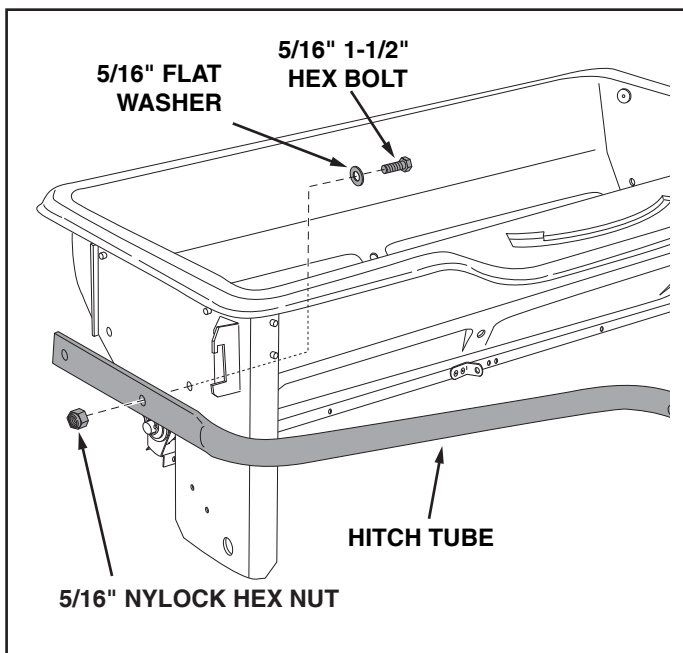

FIGURE 1
- (1) Pliers
- Attach a hitch tube to the front hole in the right hand side of the hopper using a 5/16" x 1-1/2" hex bolt, a 5/16" flat washer and a 5/16" nylock hex nut. Assemble the bolt and washer from inside the hopper. **Do not tighten yet.** See figure 1.
- Tighten, but do not overtighten** the two 5/16" x 1-1/2" hex bolts assembled in figure 1.